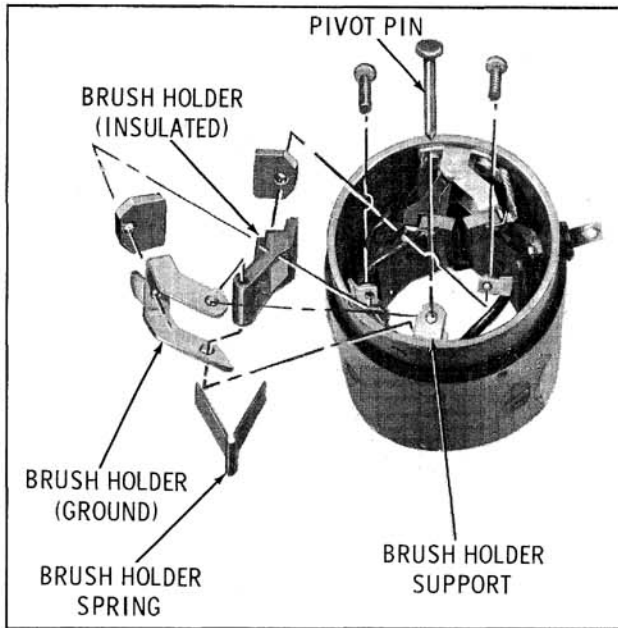

Fig. 13-49 Brush Installation
5. If necessary to replace brush holding parts, refer to Fig. 13-49, then proceed as follows: